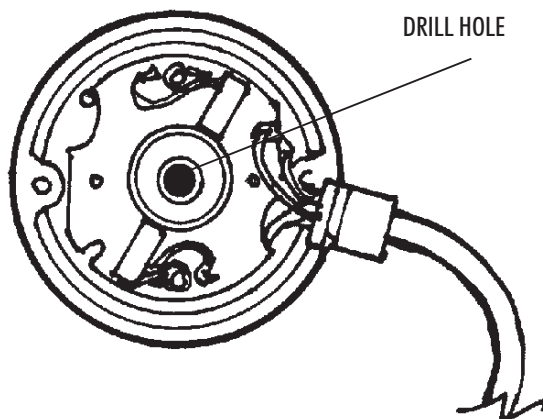

FIGURE 3—Drill a 1/4" hole in the center of the end cap.
3. Drill a hole approximately 1/4" in diameter through the center of the end of the brush plate motor cap. (See figure 3.) Clean out any metal chips before reassembly.